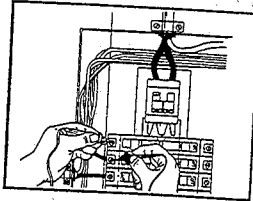

Fig 4
4. Connect the test leads to the device or circuit being measured. (Fig 4)